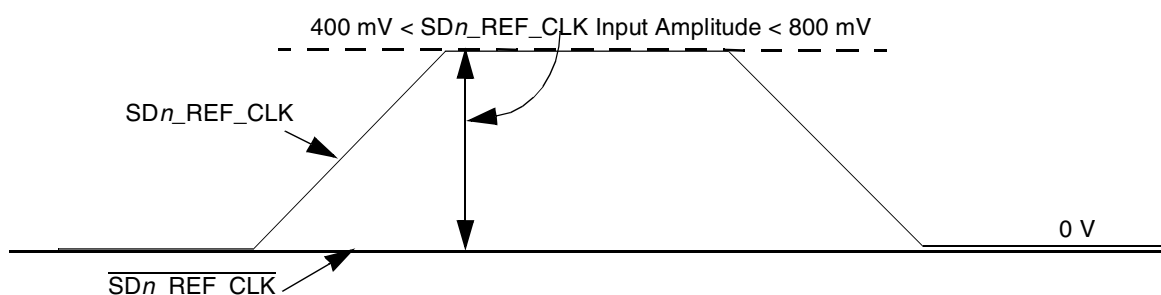

Figure 52. Single-Ended Reference Clock Input DC Requirements
- The $\overline{SDn_REF_CLK}$ input average voltage must be between 200 mV and 400 mV. Figure 52 shows the SerDes reference clock input requirement for single-ended signaling mode.